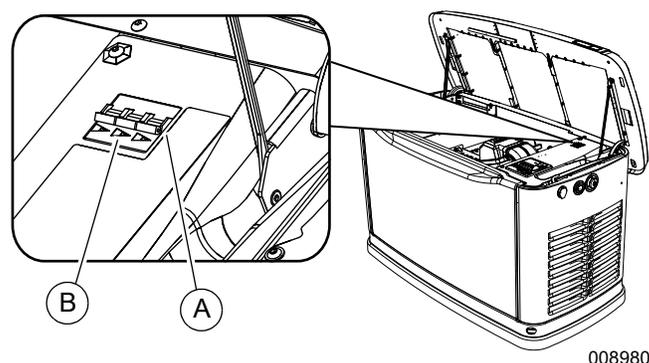

Figure 3-2. Generator Main Line Circuit Breaker (MLCB)
See **Figure 3-2**. This is a 3-pole circuit breaker (generator disconnect) (A) rated according to relevant specifications.